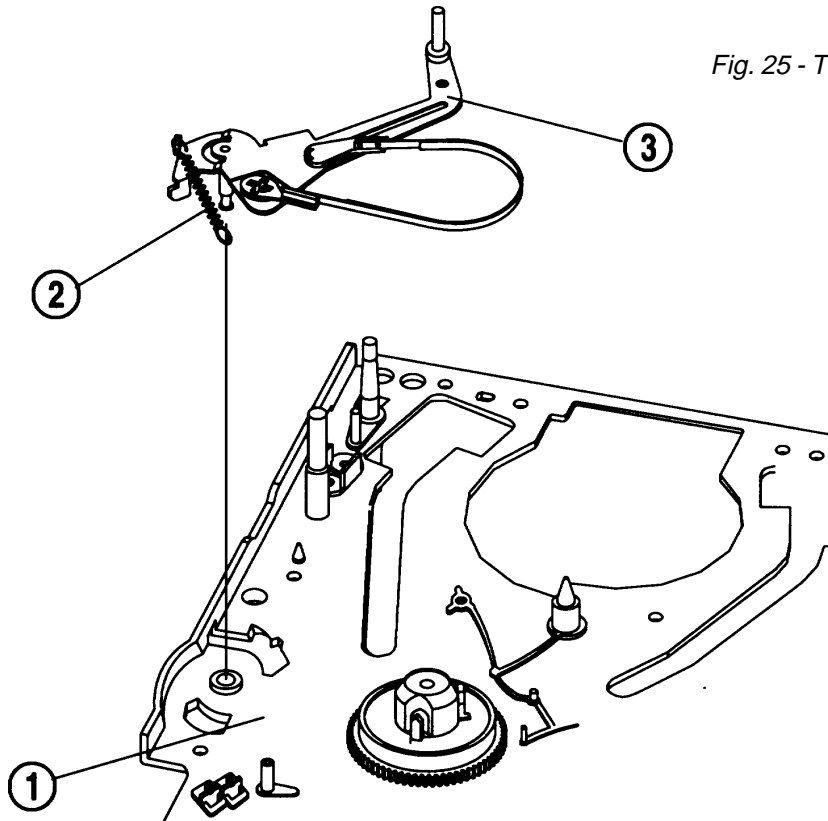

Fig. 24 Tension Band Assembly Removal
1. Remove the tension spring (2) from the main base (1). (Fig. 24)